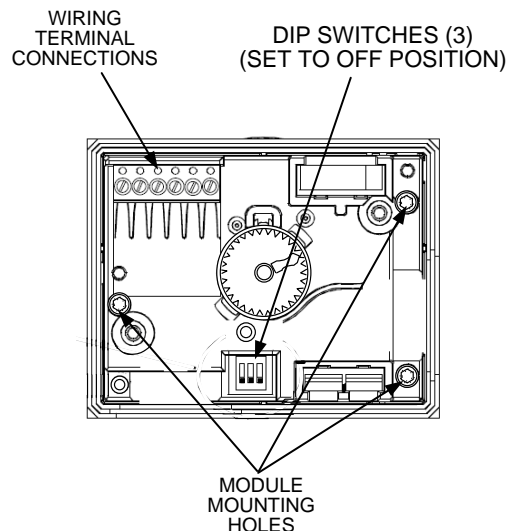

Figure 8-23. Electronics Module with Cover Removed
3. Remove the Module cover to access the wiring terminals (Figure 8-23). Disconnect and tag the power and control signal wire leads from the Module terminals.
4. Using a 3 mm Allen key, loosen the three (3) socket head screws securing the blue Electronics Module to the black Valve Head. These socket head screws are recessed and the Allen key must be inserted into the holes shown in Figure 8-23 to engage the screw heads.
7. Refer to Figure 8-23 and ensure that the three (3) DIP switches on the replacement Module are all in the OFF (down) position.
10. Using two (2) pipe wrenches, secure the Control Valve unions to the Boiler Water piping.
11. Refer to Figure 8-23 and ensure that the three (3) DIP switches on the Electronics Module of the replacement Valve are all in the OFF (down) position.